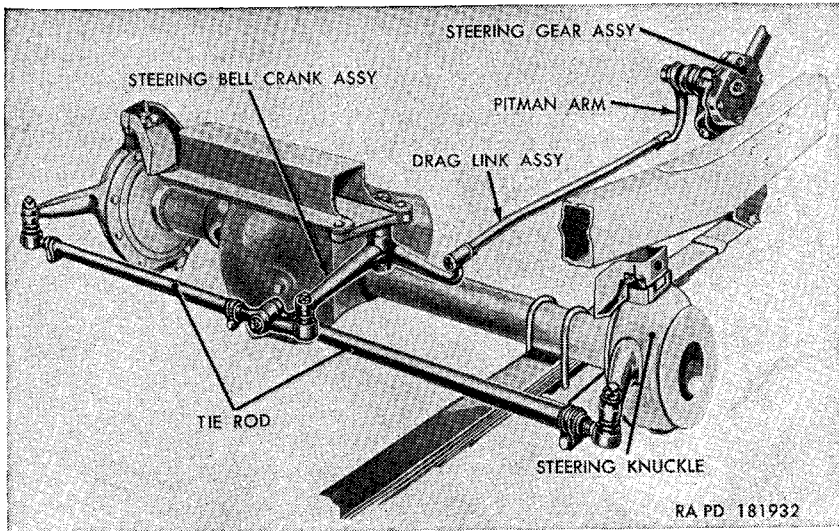

Figure 149. Steering system linkage.
*a. Description.* The steering system consists of the steering wheel, steering gear, Pitman arm, steering drag link, bellcrank, and two tie rods with ends. Except for the steering wheel and shaft jacket, the entire steering system is shown in figure 149. The steering gear is the cam and twin-pin levertype, and carries a conventional Pitman arm. The drag link is the conventional ball- and socket-type with spring-loaded adjustment. The bellcrank assembly includes needle bearings between the bellcrank and bellcrank shaft. The right tie rod with ends connects the bellcrank to the right steering knuckle arm. The left tie rod with ends connects the left end of the right tie rod to the left steering knuckle arm.
- (1) Remove the cotter pin (A) from the axle end of the drag link assembly (fig. 149). Unscrew, but do not remove, the axle end ball seat adjusting plug (B). Lift the drag link assembly off the ball of the bellcrank.
- (2) Remove the cotter pin (A) from the steering gear end of the drag link assembly (fig. 149). Unscrew, but do not remove,
- (1) Position the gear end of the drag link assembly over the ball of the Pitman arm (fig. 149), making certain that the ball enters between the two ball seats (C). Tighten the gear end ball seat adjusting plug (G). Back off the plug one-quarter turn and until one of the slots is aligned with the holes in the drag link, and install a  $\frac{1}{8} \times 1\frac{3}{4}$  cotter pin (A) and spread pin ends.
- (2) Position the axle end of the drag link assembly over the ball on the steering bellcrank (fig. 149), making certain that the ball enters between the ball seat (C) and the ball seat spring (D). Tighten the axle end ball seat adjusting plug (B). Back off the plug one-half turn and until one of the slots is aligned with the holes in the drag link and install a  $\frac{1}{8} \times 1\frac{3}{4}$  cotter pin (A) and spread pin ends.